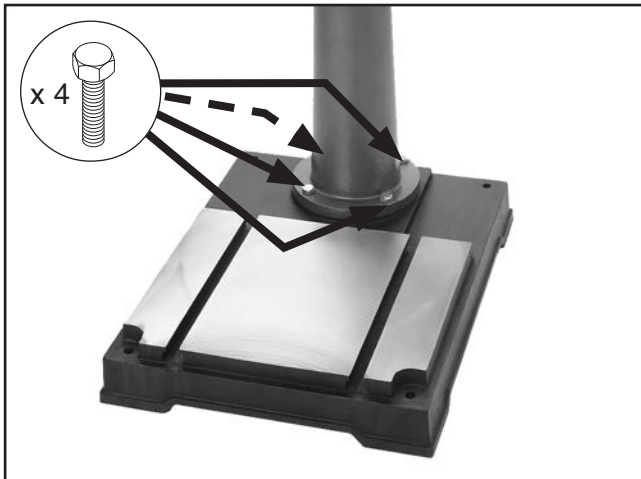

Figure 14. Column secured to base.
2. Secure column to base with (4) hex bolts, as shown in **Figure 14**.